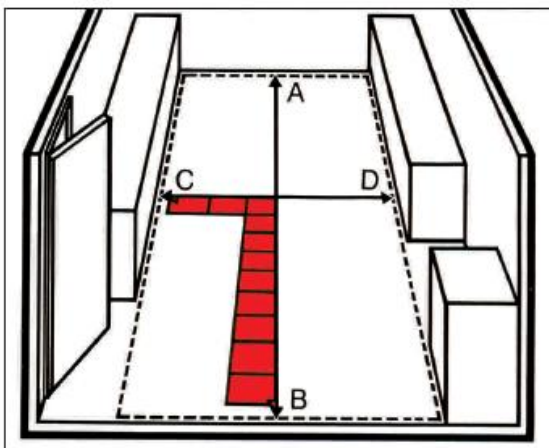

Fig 2
1.3 If the gap between the wall and the last full tile is less than half a tile in width, mark a new chalk line parallel to the original chalk line **A-B**, one half tile width away. **Refer to Fig 2.**